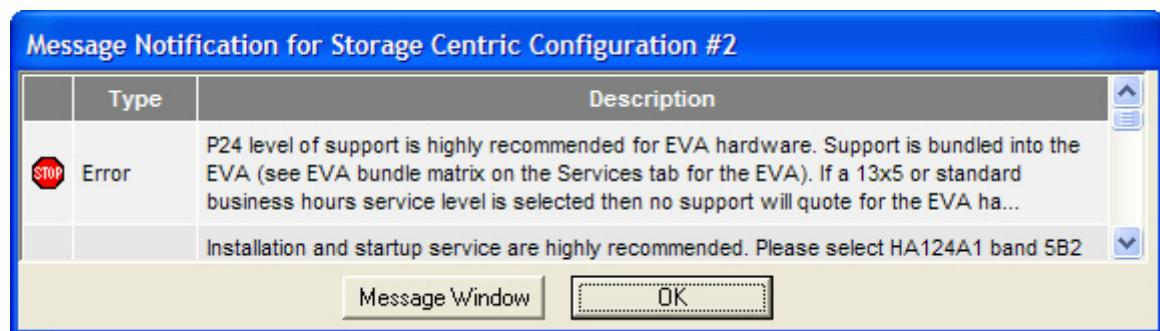

Figure 1: Error message notification
- ⚠ **To-Do Messages** - Certain messages are not errors but reminder that there is something left to do on the configuration. For example, this kind of message occurs adding an empty disk array closure to the worksheet but before any disk drives are configured. These are "To Do" messages. On the Tools>Options Error Notification menu, one can set defaults for To Do just like the other Message Types. When the condition causing the To Do message has been met, it will be automatically deleted. See Figure 1 below.